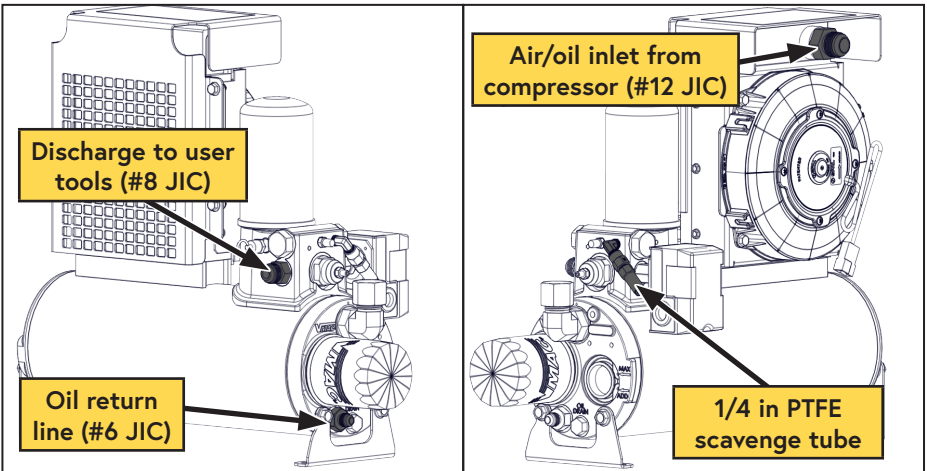

Figure 27 — WHASP Tank connections
- Connect the 90° fitting on the 3/4 in hose to the #12 JIC fitting (air/oil inlet) on the cooler above the fan (Figure 27).
- Connect the 90° fitting on the 3/8 in hose to the #6 JIC fitting (oil return fitting) beneath the oil filter on the tank (Figure 27).
- Connect the 1/4 in PTFE tube to the 1/4 in push-to-connect (oil scavenge) fitting near the coalescing filter (Figure 27).